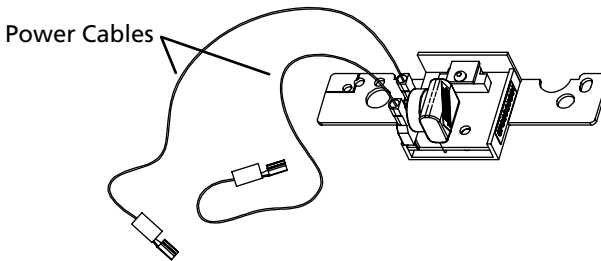

Figure 21. Attaching Power Cables to WOPI
6. Attach power cables to the WOPI as shown in Figure 21.